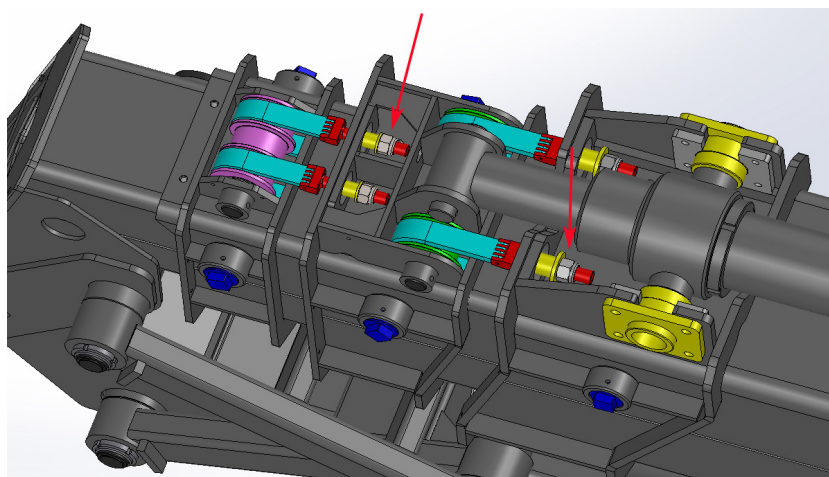

Fig. 5.7
- the chains tension and if necessary set them by acting on the bolts of Fig. 5.7; with the boom in horizontal position, extend it for 10 cm and re-entry; Loosen the upper bolts until the chain is loose and then screw until the chain becomes a little tight (for more details look the paragraph 5.12)